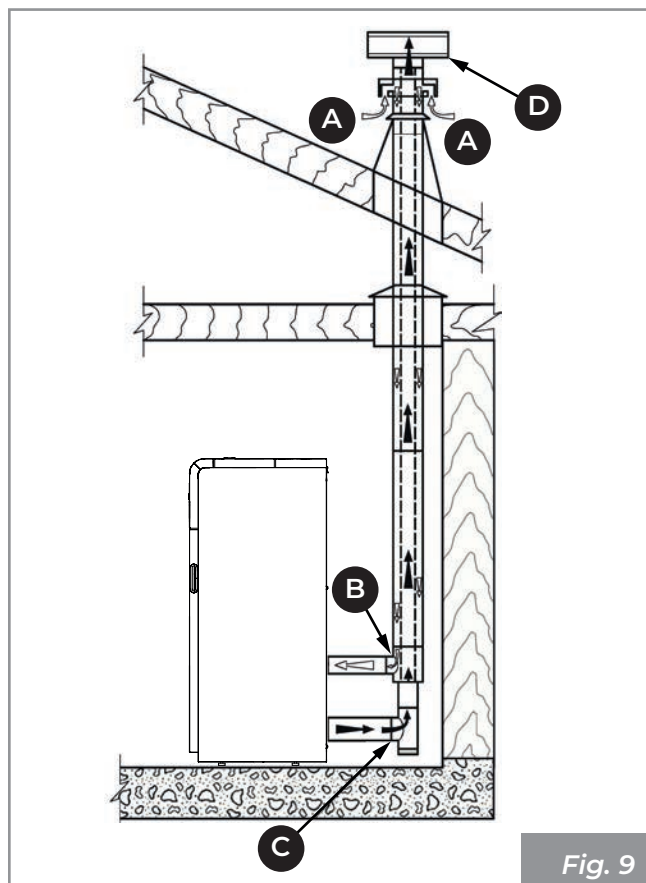
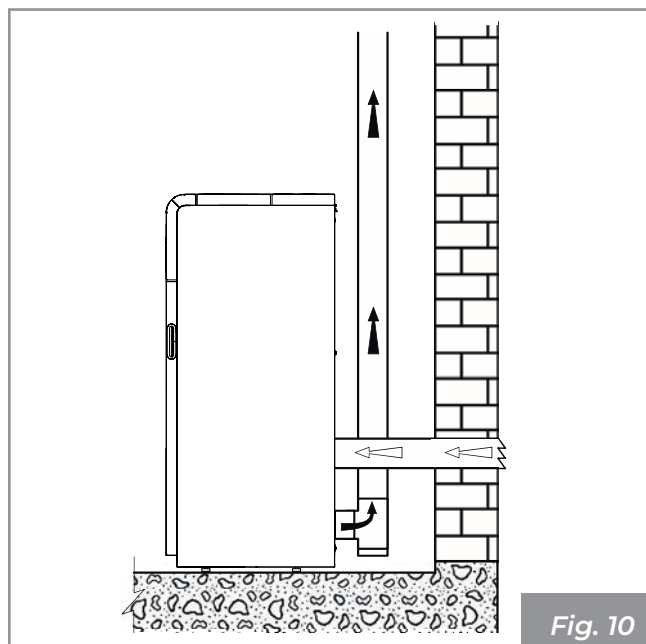

Fig. 9
Fig. 10
- it can come directly from outside with direct connection to the combustion chamber (**Fig. 9 - Fig. 10**).
- channel the combustion air using a coaxial exhaust pipe to expel the flue gases and extract the air (**Fig. 9 - A, B = Air inlet, C, D = Flue gas outlet**); as a consequence it is not necessary to make a classic air intake in the room;
- connect the combustion air inlet of the appliance to the air intake with a suitable duct (**Fig. 10**).